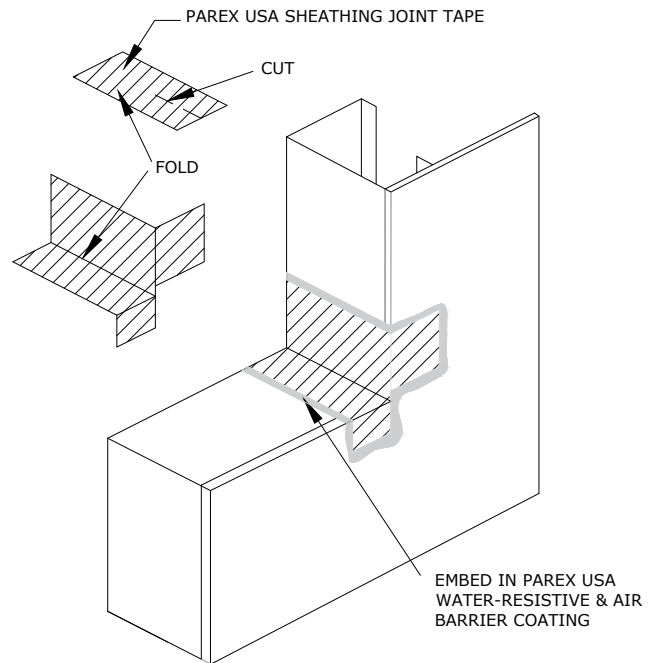

Fig. 13.1
1. Cut Sheathing Joint tape in a length to wrap all the way into the rough opening and onto the sheathing face a minimum of 2 inches. Cut and embed as shown in (Fig 13.1).